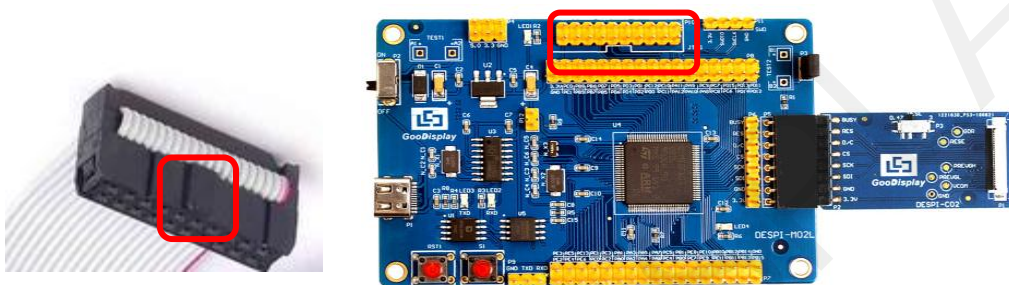

Figure 6 : Connection between JTAG and simulator
- 1) Connect the simulator to DESPI-M02's JTAG interface (align the raised part of the figure 6 simulator interface to the notch direction of the JTAG interface) and connect the computer USB port at the other end.